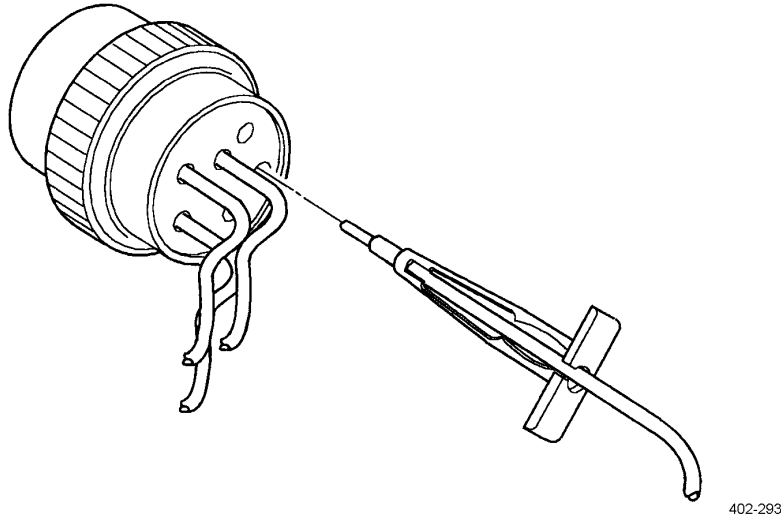

Figure 18. Removal Tool Insertion.
- (2) Slide tool along cable into insert cavity until it engages and resistance is felt. DO NOT twist or insert tool at an angle (Figure 18).